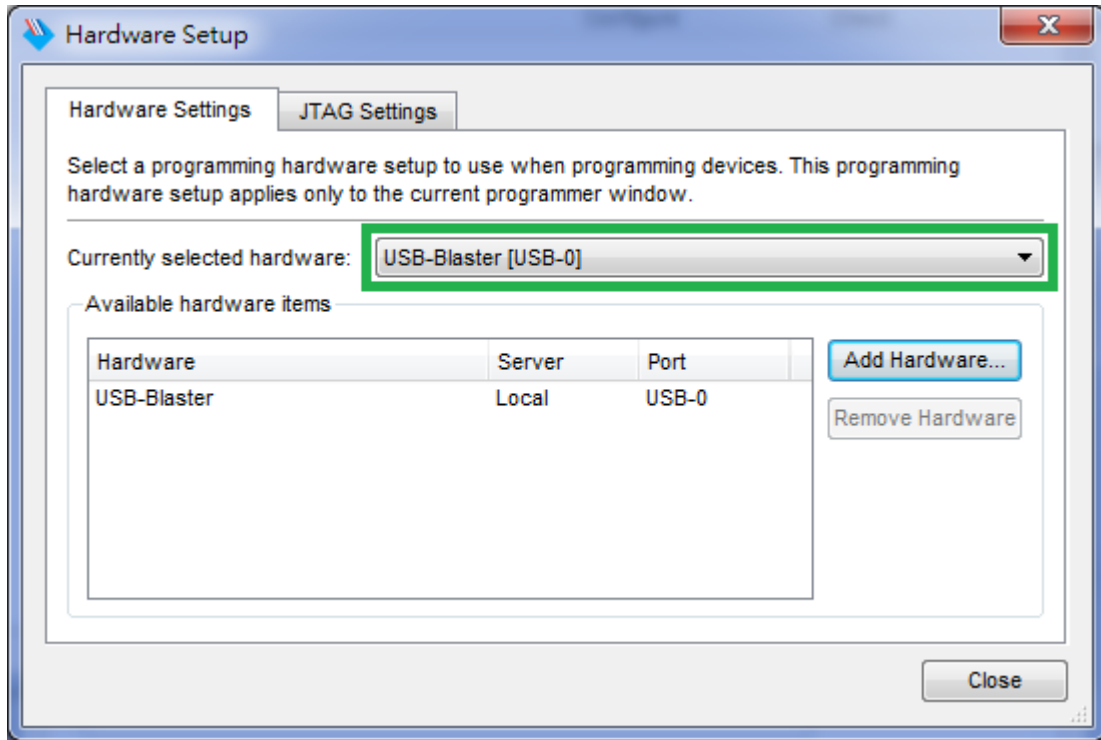

Figure 3-3 Hardware Setting
3. If it is not already turned on, turn on the USB-Blaster [USB-0] option under currently selected hardware and click “Close” to close the window. See Figure 3-3.